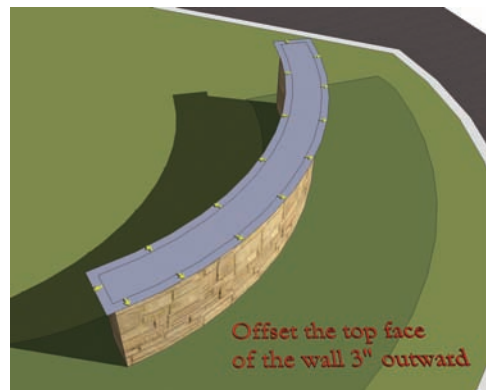

Fig. 7-43: Offset the top face of the sign wall 3" outward.
- a. With the Offset tool, select the top face of the wall. Offset the face outward 3". The edges of the face will offset 3" and create a face overlapping the original edges (Fig. 7-43).